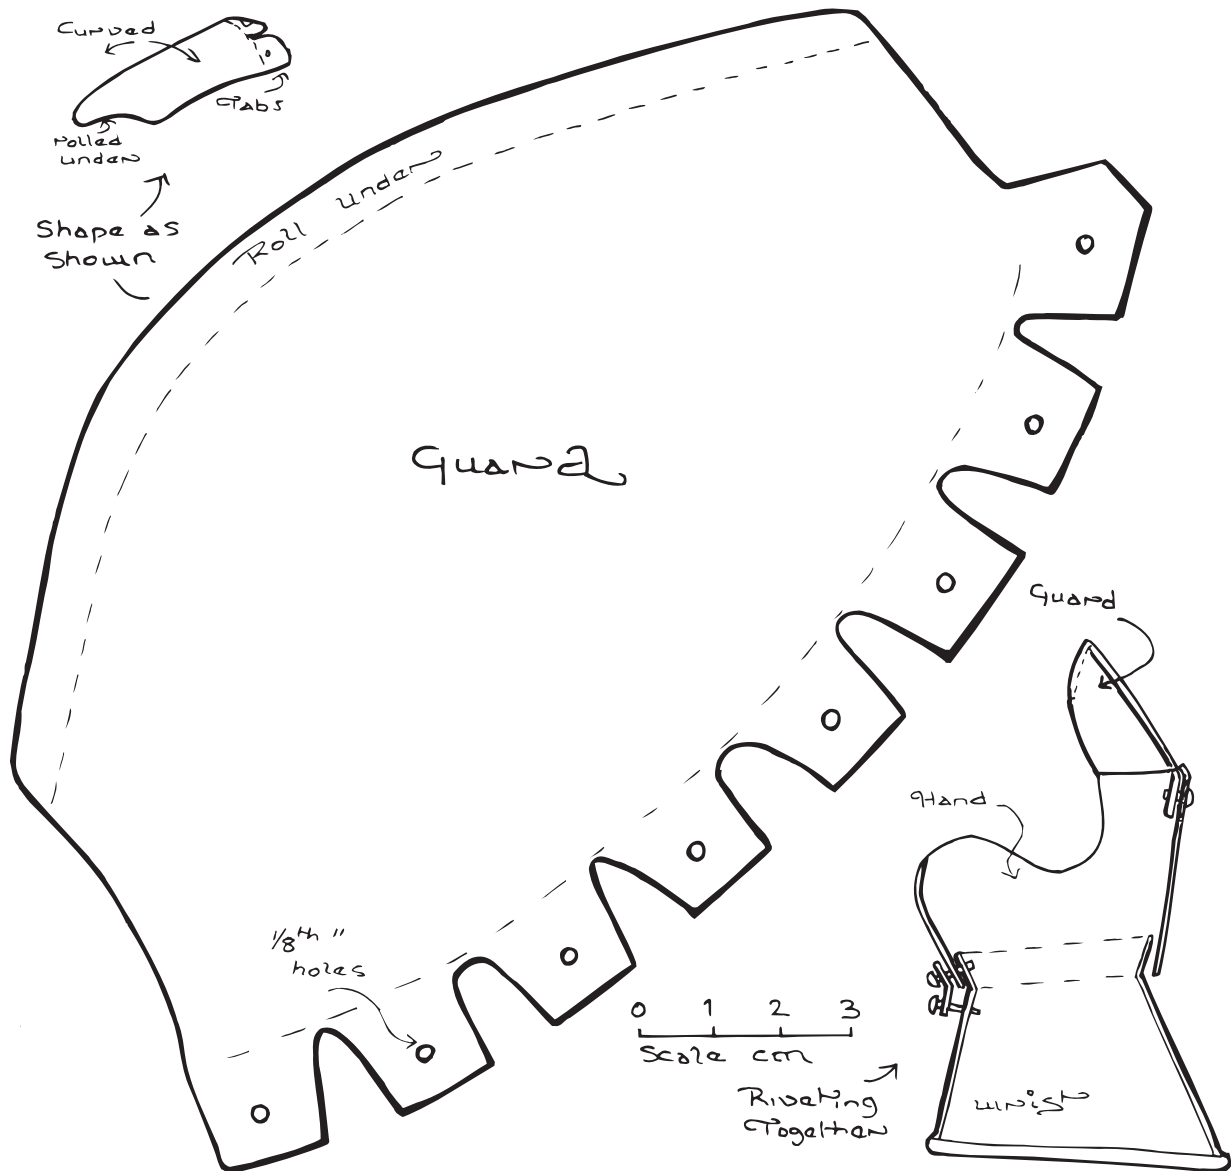

Figure 13-2: Patterns for Hourglass Gauntlet
3. Roll the hand plate into an oblong-based cone (as shown on the diagram in figures 13-2 to 13-4).